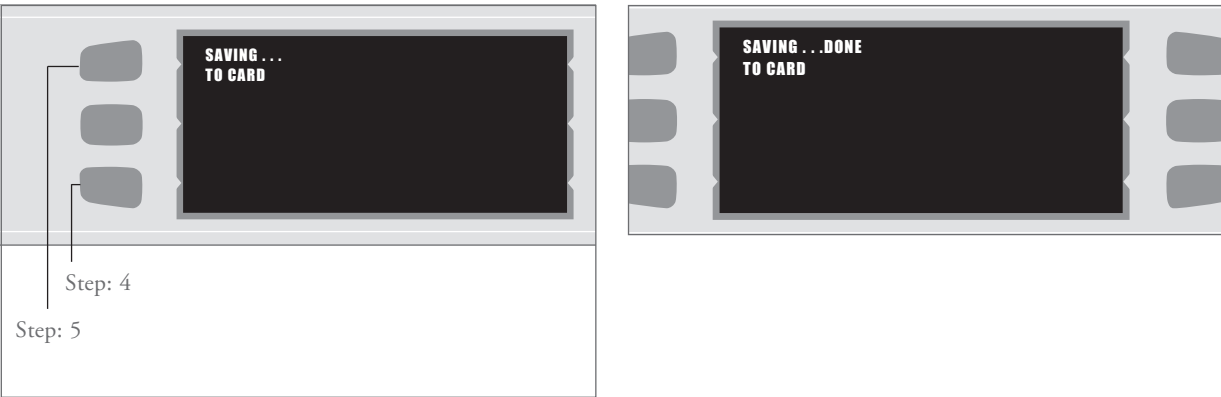

FIGURE 28: Saving to Smart Card
5. Press the top-left soft key to “Save Menu to Card” (Figure 28).